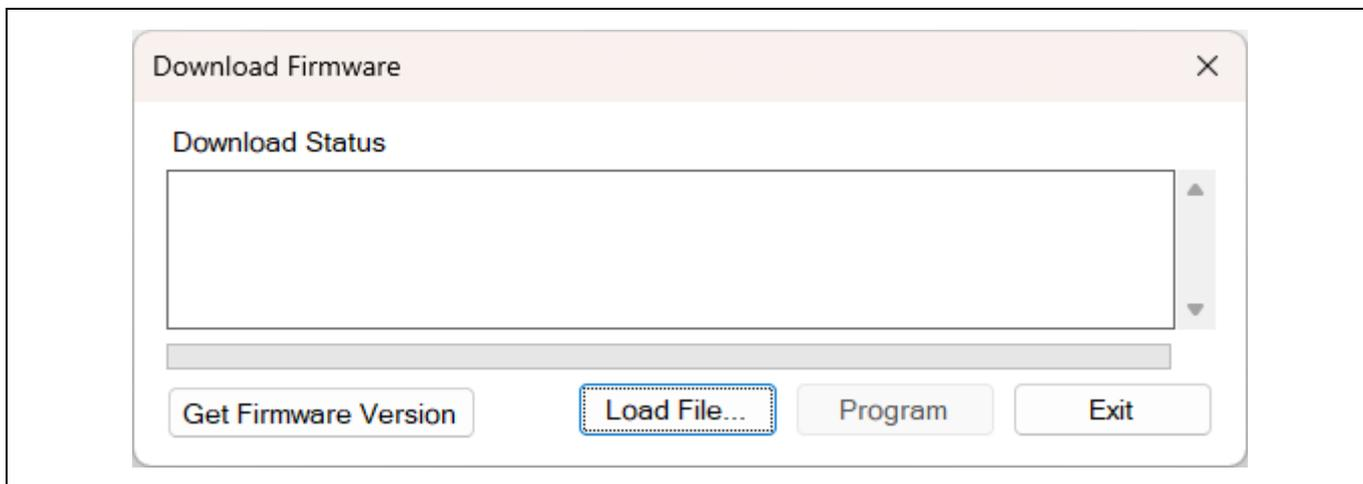
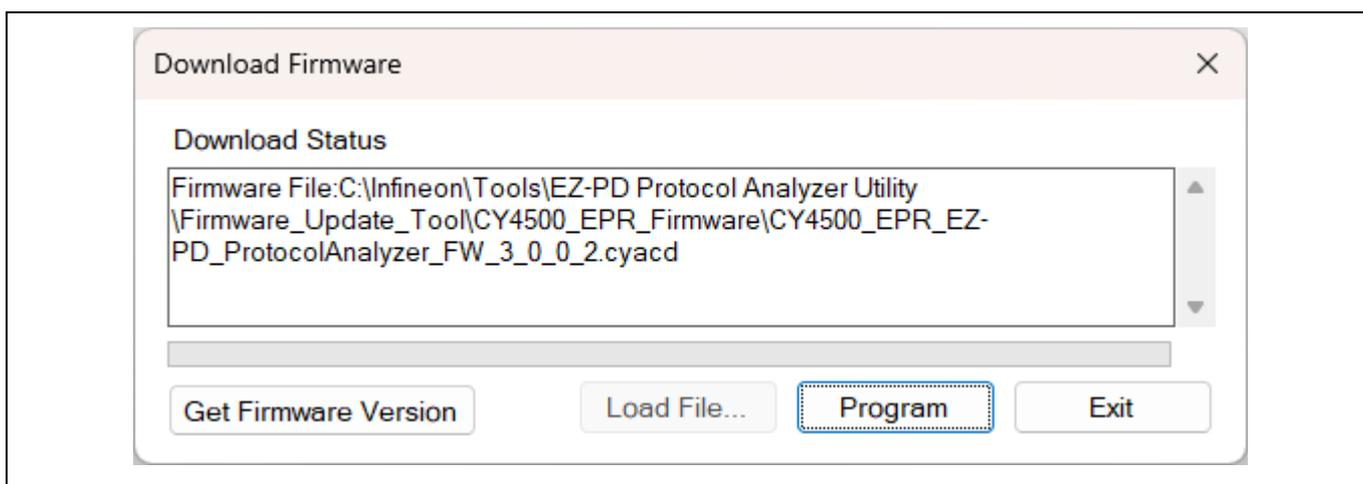

Figure 16 “Download Firmware” window
Figure 17 Selecting the CY4500-EPR firmware file
5. Upon executing step 4, the **Download Firmware** window opens as shown in Figure 16. The device enters the bootloader mode by default.
6. Click **Load File...** as shown in Figure 16 and select the CY4500-EPR firmware file in *.cyacd* format as shown in Figure 17. Click **Open**. The binary file provided with the analyzer is available at the following location: